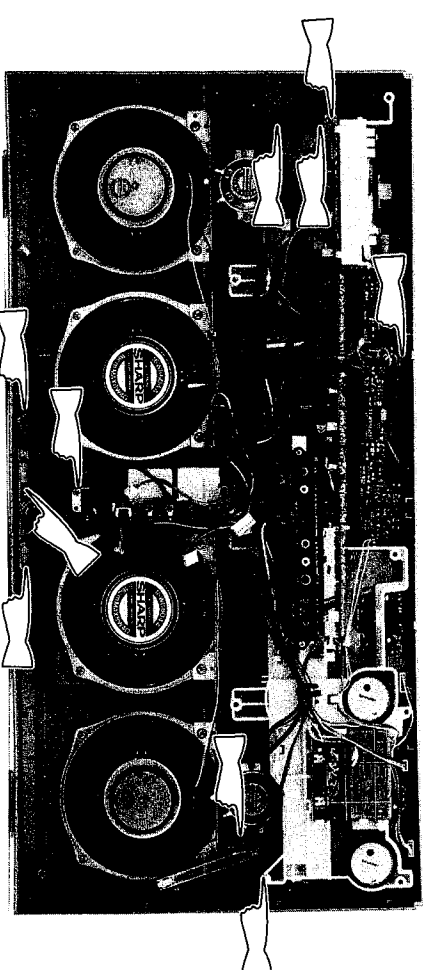

Figure 6-2
2. Remove three screws at the main frame, two screws at the power switch holder, one screw at the power amplifier P.W.B., three screws at the headphone/microphone P.W.B. and one socket at the echo P.W.B. Then hold the main frame up to remove. See Fig. 6-2.